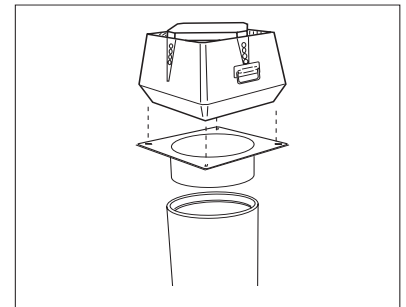

Fig. 4
- Insert the steel chimney adapter (SCA) into the chimney/stack. The long collar engagement ensures safe anchoring (see fig. 4). If necessary, the adapter can be secured by means of long self-tapping stainless steel screws into the side of the collar through the chimney wall.